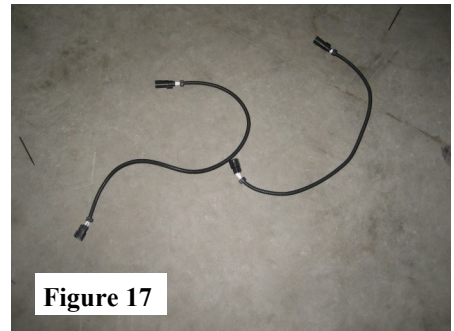

Figure 17
18. Inspect oxygen sensor cables and note that there are two different lengths. (See Fig. 17)